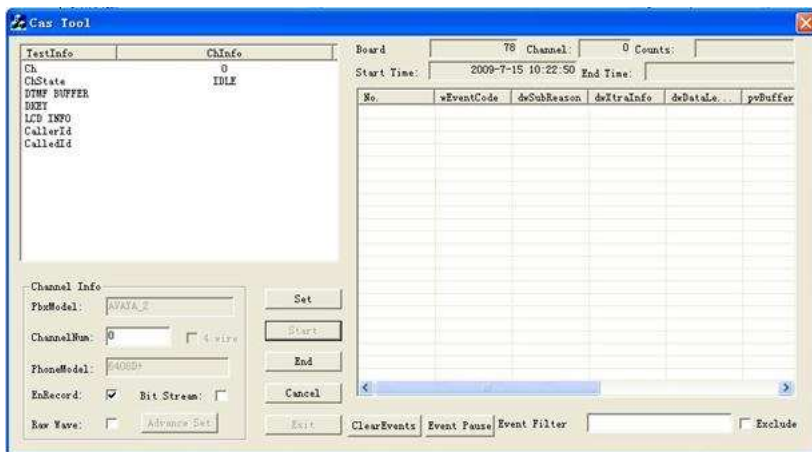

Figure 2-8
**Step 8:** Click on 'Start' and enter the interface as shown in Figure 2-8.